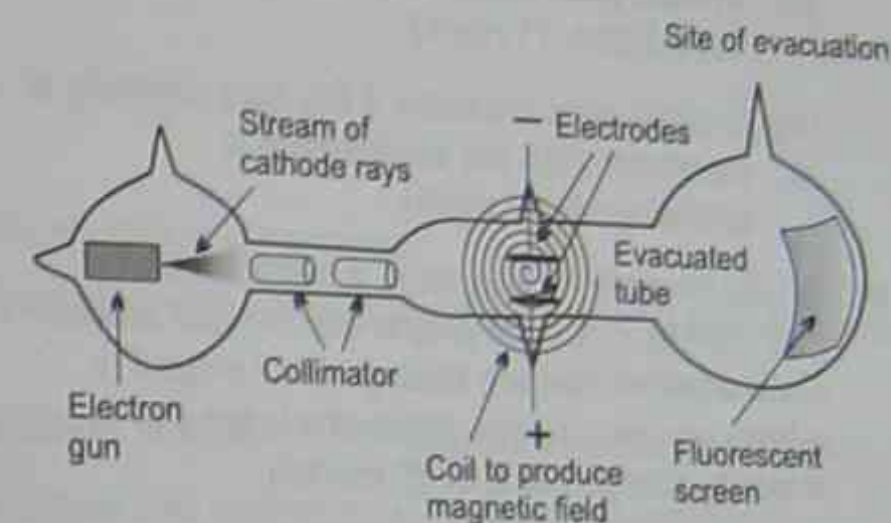

Figure 3.45
- 31 In 1897, J.J. Thomson used apparatus similar to that shown in Figure 3.45.